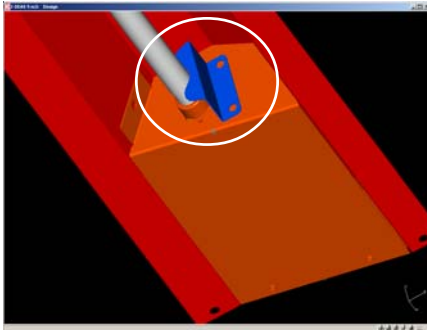

Figure 2-7
2. Using a Phillip's head screwdriver, remove the screws securing the lamp retainers and remove retainers. Figure 2-7.